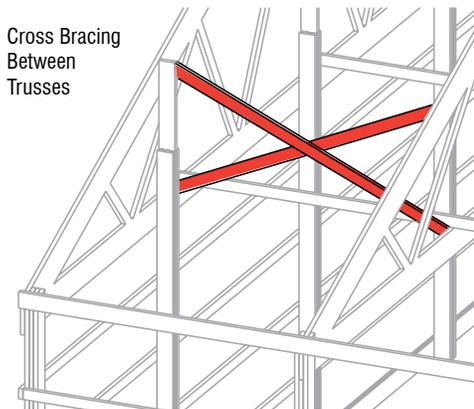

FIGURE B10-22
- Truss-to-Truss cross Bracing at each row of Bottom Chord Lateral Restraint and at 20' intervals along the length of the building (Figure B10-22) unless 3.3 (c) on page 79 is applied to all Trusses as they are being set